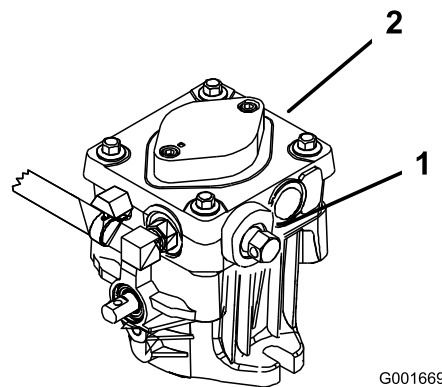

Figure 23
2. Rotate the by-pass valves counterclockwise 1 turn to push. This allows hydraulic fluid to by-pass the pump enabling the wheels to turn (Figure 23).
Rotate the by-pass valves clockwise 1 turn to operate machine (Figure 23).